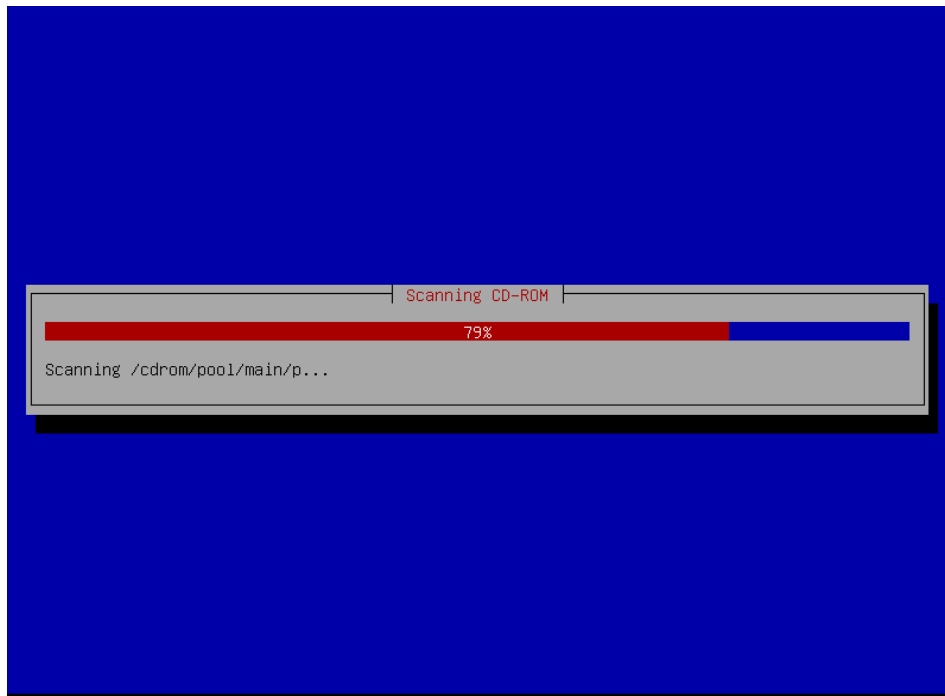

Figure 69: Installation Progress Bar
8. Stage 1 software installation begins. Progress bar is shown in **Figure 69**. This process takes approximately 20-25 minutes.